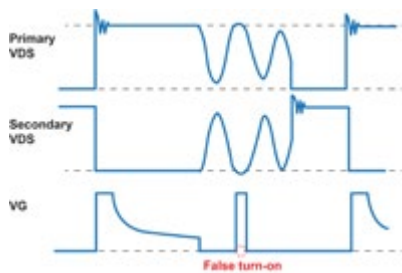

Figure 4: SR Waveform with Potentially False Turn-On during Demagnetizing Ringing
As the secondary current starts to change polarity and turn off ( $t_1$  in Figure 4), the MOSFET package inductance ( $L_s$ ) causes an instantaneous voltage on the sensed  $V_{ds}$ , as shown in Equation (1) and Equation (2):
An example of a ringing-induced issue is shown in Figure 4. As the secondary current falls to zero, the primary switch  $V_{ds}$  has resonance between the transformer main inductance and MOSFET  $C_{ds}$ , which is reflected to the secondary side. Normally, the valley of this resonance should not touch the ground level, but sometimes the resonance valley may drop low enough to reach the SR turn-on threshold. This can be caused by factors such as the reverse recovery of the diode in the primary-side RCD snubber.
As the slew rate of this  $V_{ds}$  resonance is always much lower than the real turn-off slew rate (thanks to large main inductance), MPS MP6908 uses a unique slew rate programming pin to help decide when is the real turn off, and when is the normal  $V_{ds}$  resonance (see Figure 4).